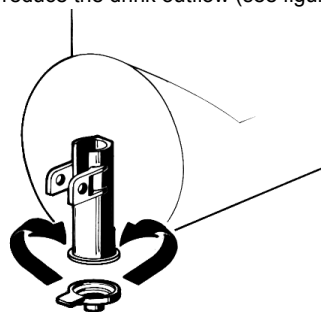

figure 5
- 10 - Restrictor cap: when the unit is used in Soft Drink mode it is advisable to install the restrictor cap on the faucet outlet in order to reduce the drink outflow (see figure 5).